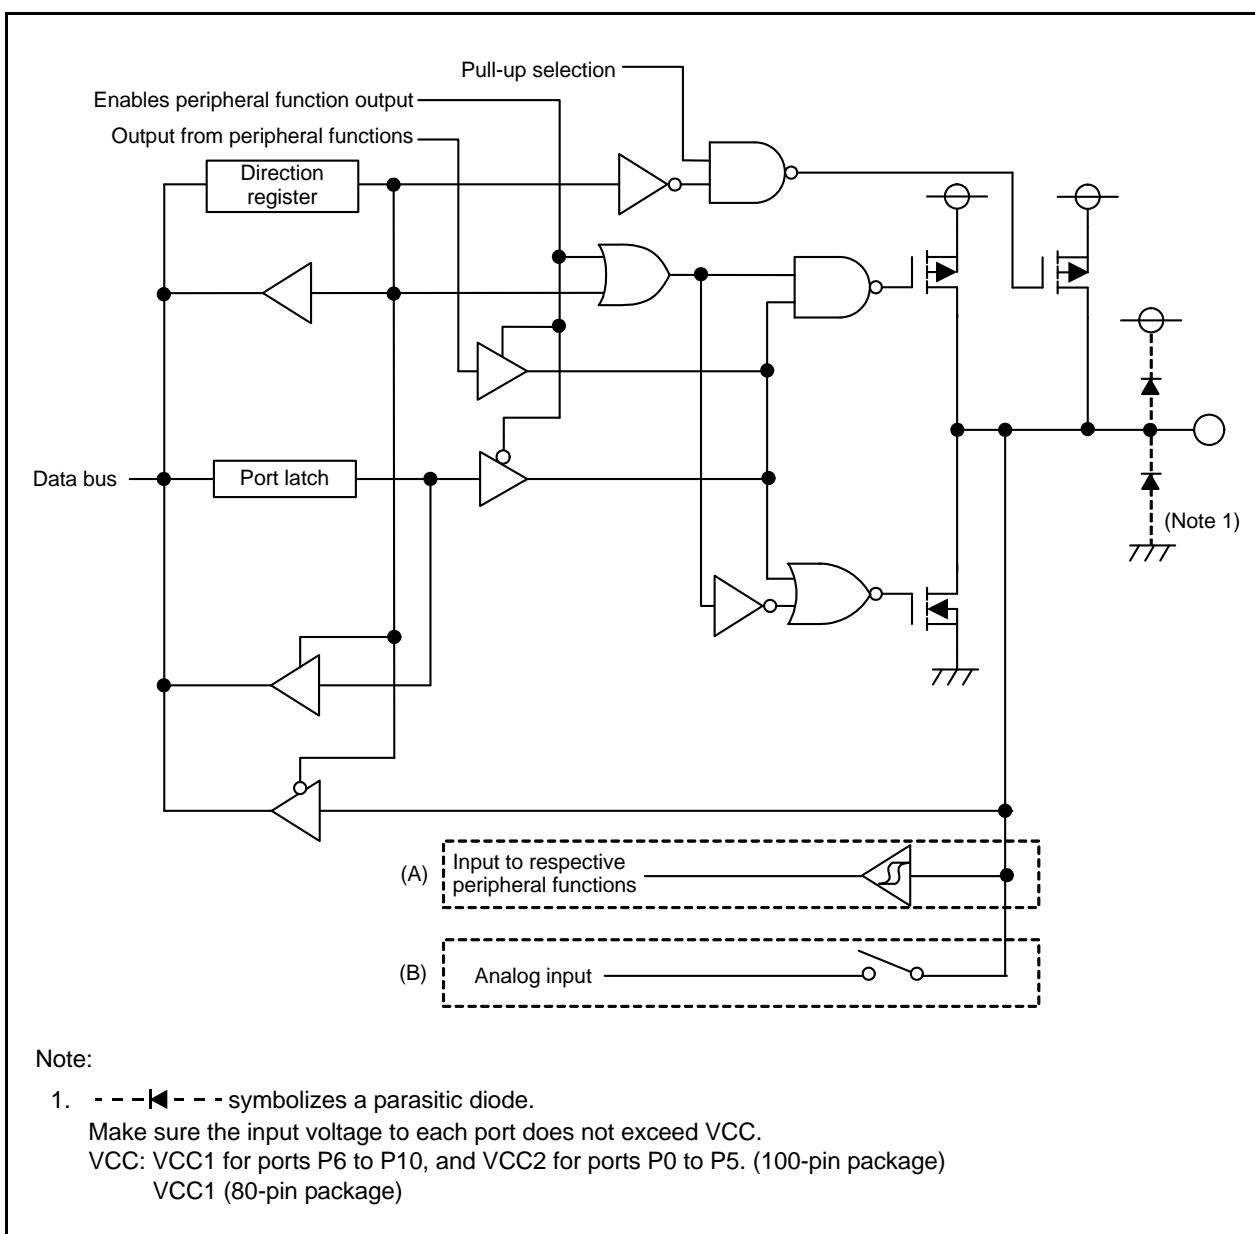

Figure 13.2 I/O Ports (Basic + Output from Peripheral Functions)
Peripheral function input (A) in Figure 13.2	Analog input (B) in Figure 13.2